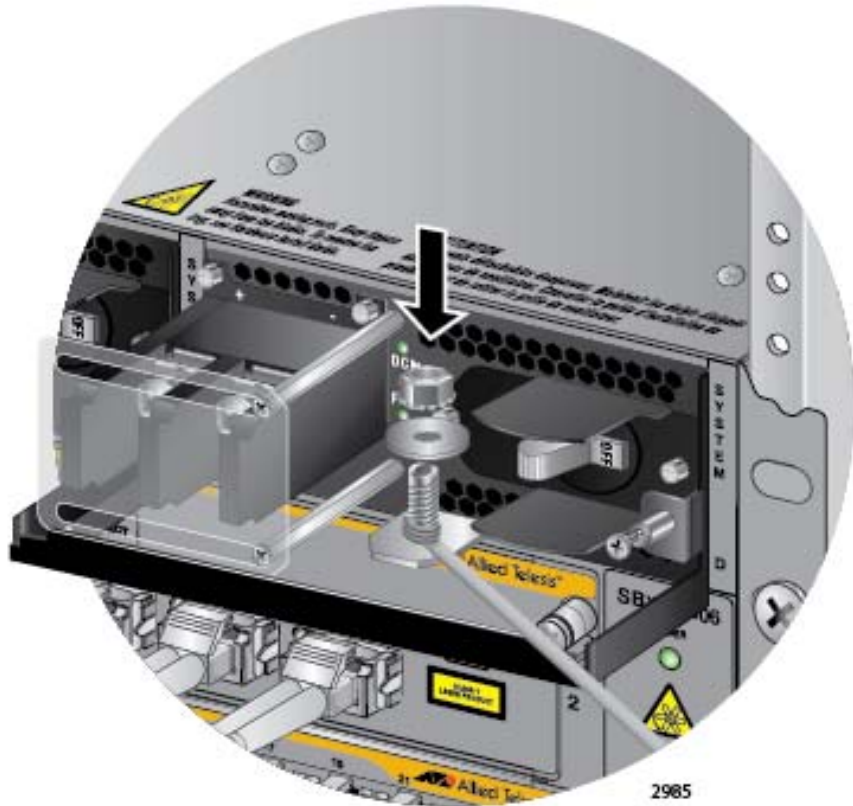

Figure 129. Securing the Bare Grounding Wire to the Grounding Post
4. Secure the wire with the nut and washer removed in step 2, and an 8 mm wrench, as shown in Figure 129.